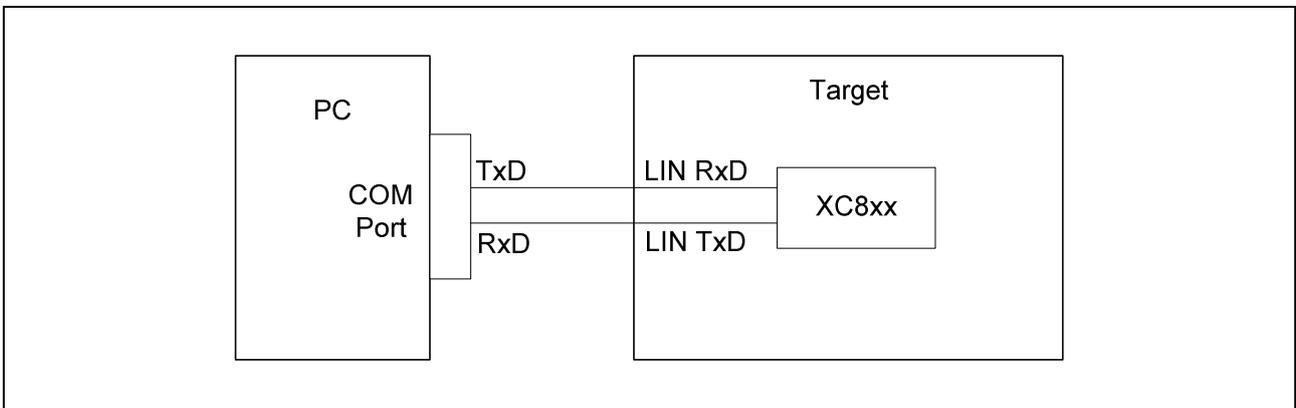

Figure 6 The connection between a PC and a target system (based on LIN device, e.g. XC866L) without LIN transceiver for LIN BSL programming.
- Figure 6 shows the connection between a PC and a target system without LIN transceiver for LIN BSL programming. In this case, the user should **NOT** check the “Use LIN Transceiver” under the “Option” menu.